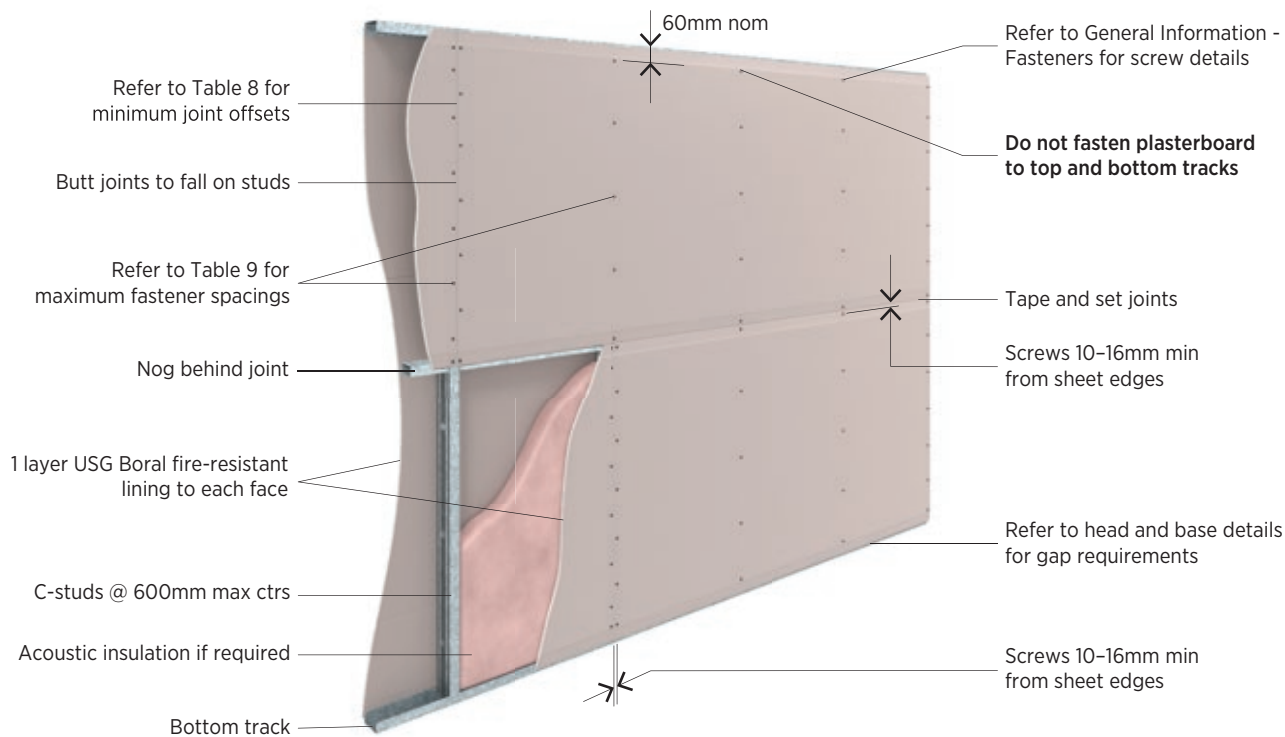

Figure 6: Fire-rated Steel Stud – Horizontal Fixing – Single Layer
- Plasterboard linings can be installed vertically or horizontally in fire-rated and non-fire-rated wall systems. Refer to Figures 6–13 for optional plasterboard configurations in steel stud wall systems.